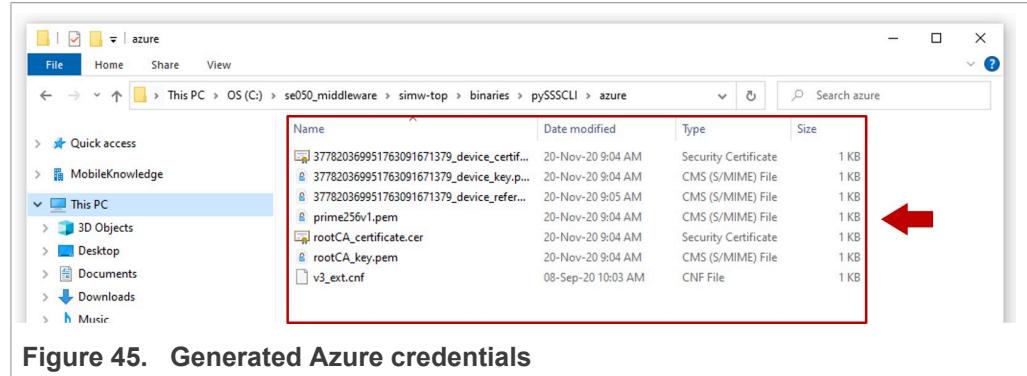

Figure 45. Generated Azure credentials
- Go to `simw-top\binaries\pySSCLI\azure` folder and check that the keys appear inside the folder as shown in Figure 45: